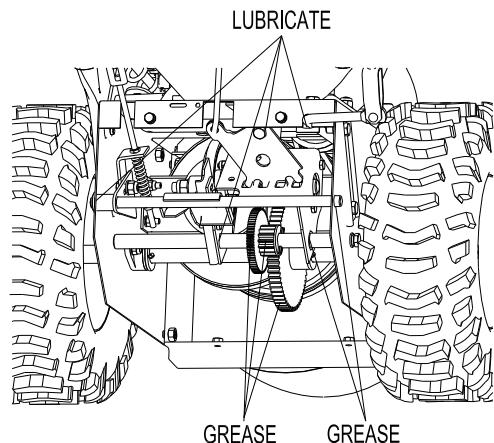

FIG 25
**6.8.4** Lightly lubricate the snow blower with light oil, wipe up any excess oil. (FIG 25)